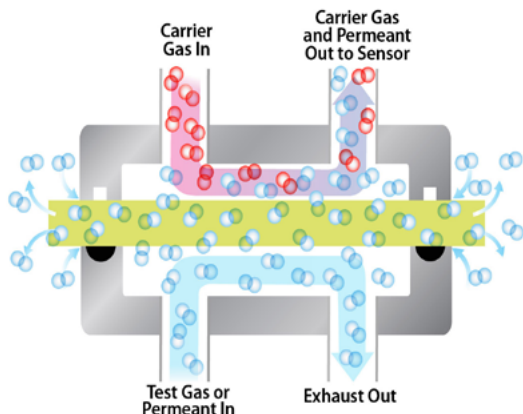

Figure 1. Possible path of edge-effect issue
6. Ingress of ambient air and moisture via the cross-section of the porous structure at the sample edge (figure 1).